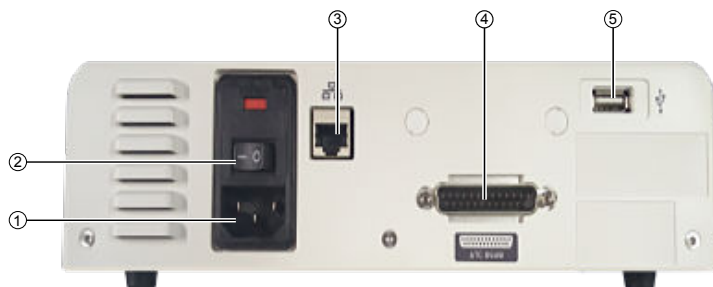

Figure 1 Back panel of the ATC control module
1. Connect the connector cable into the insertion points on the ATC block (Figure 1, item 4) and base module (Figure 2, item 1)
2. Connect the power cable into the back of the ATC control module (Figure 1, item 1)
3. Connect the ethernet cable into the control module (Figure 1, item 3) and into the computer/network that you will be using to control the ATC.